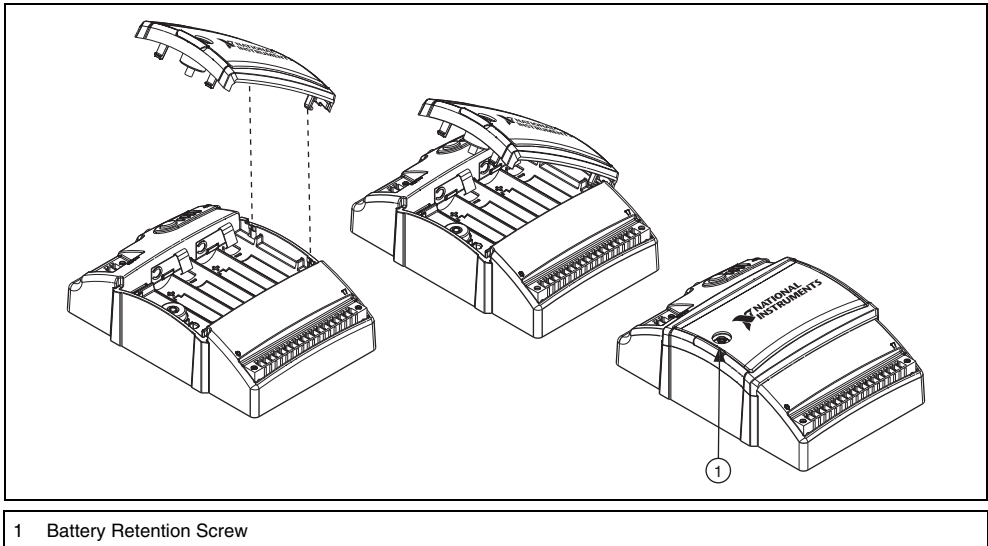

Figure 11. NI WSN-3212 Battery Compartment
1. Loosen the battery compartment retention screw and remove the compartment cover, as shown in Figure 11.